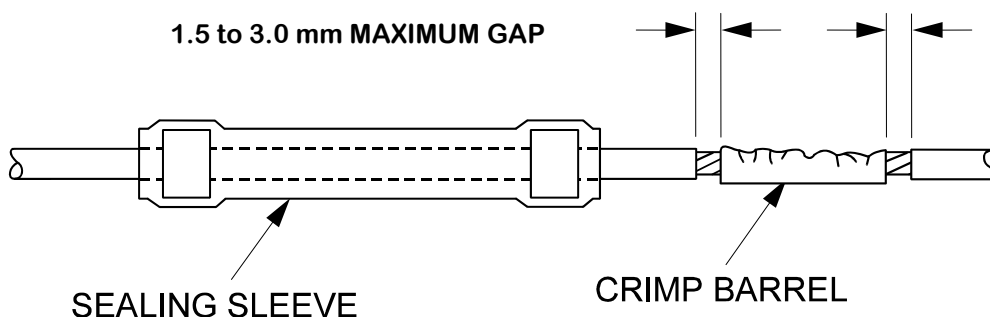

Figure 6-13 Crimping the Wire
- i. Insert end of wire into end of crimp barrel opposite stop. The wire must be visible through inspection hole. A gap of 0.8 to 1.5 mm for wire gages 10 through 26, or 1.5 to 3.0 mm for wire gages six and eight, must exist between wire insulation and crimp barrel as illustrated in Figure 6-13. Trim conductor or insulation as required.